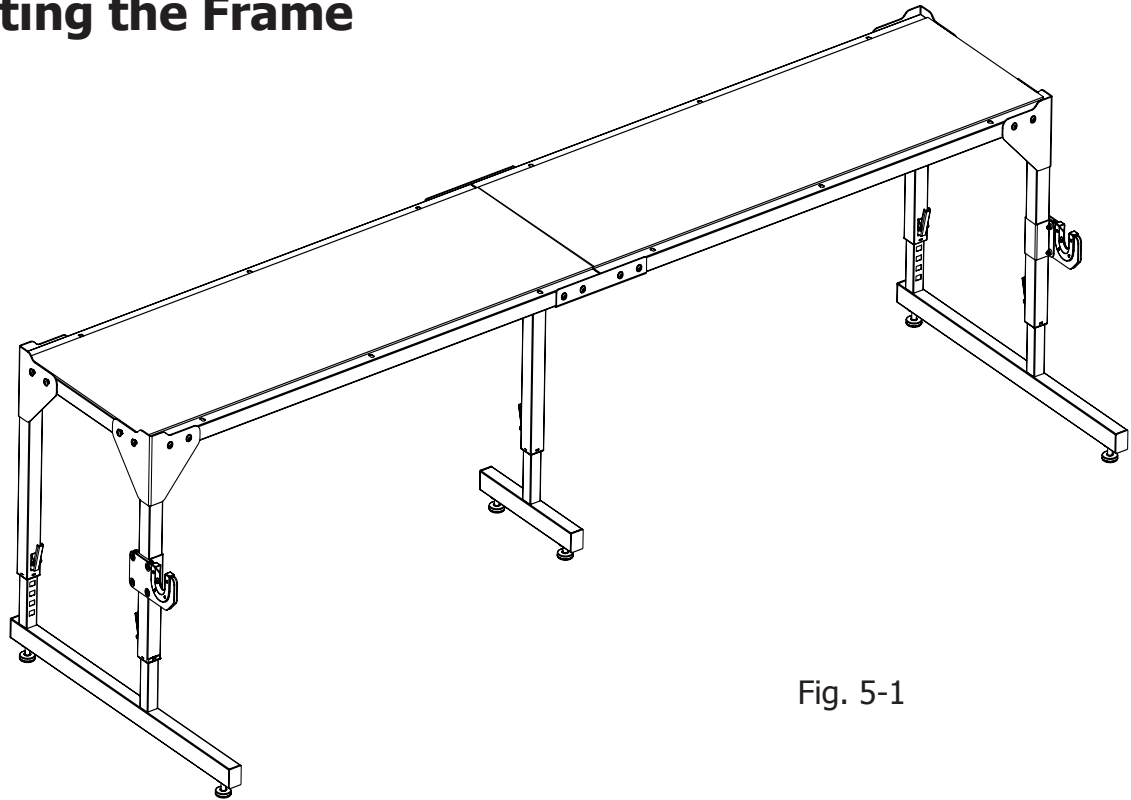

Fig. 5-1
**NOTE:** The end screws have been temporarily installed and lightly tightened into the end of the frame to support the legs while uprighting it. Care should be taken with the legs until they are fully tightened. (**Fig. 5-1**)